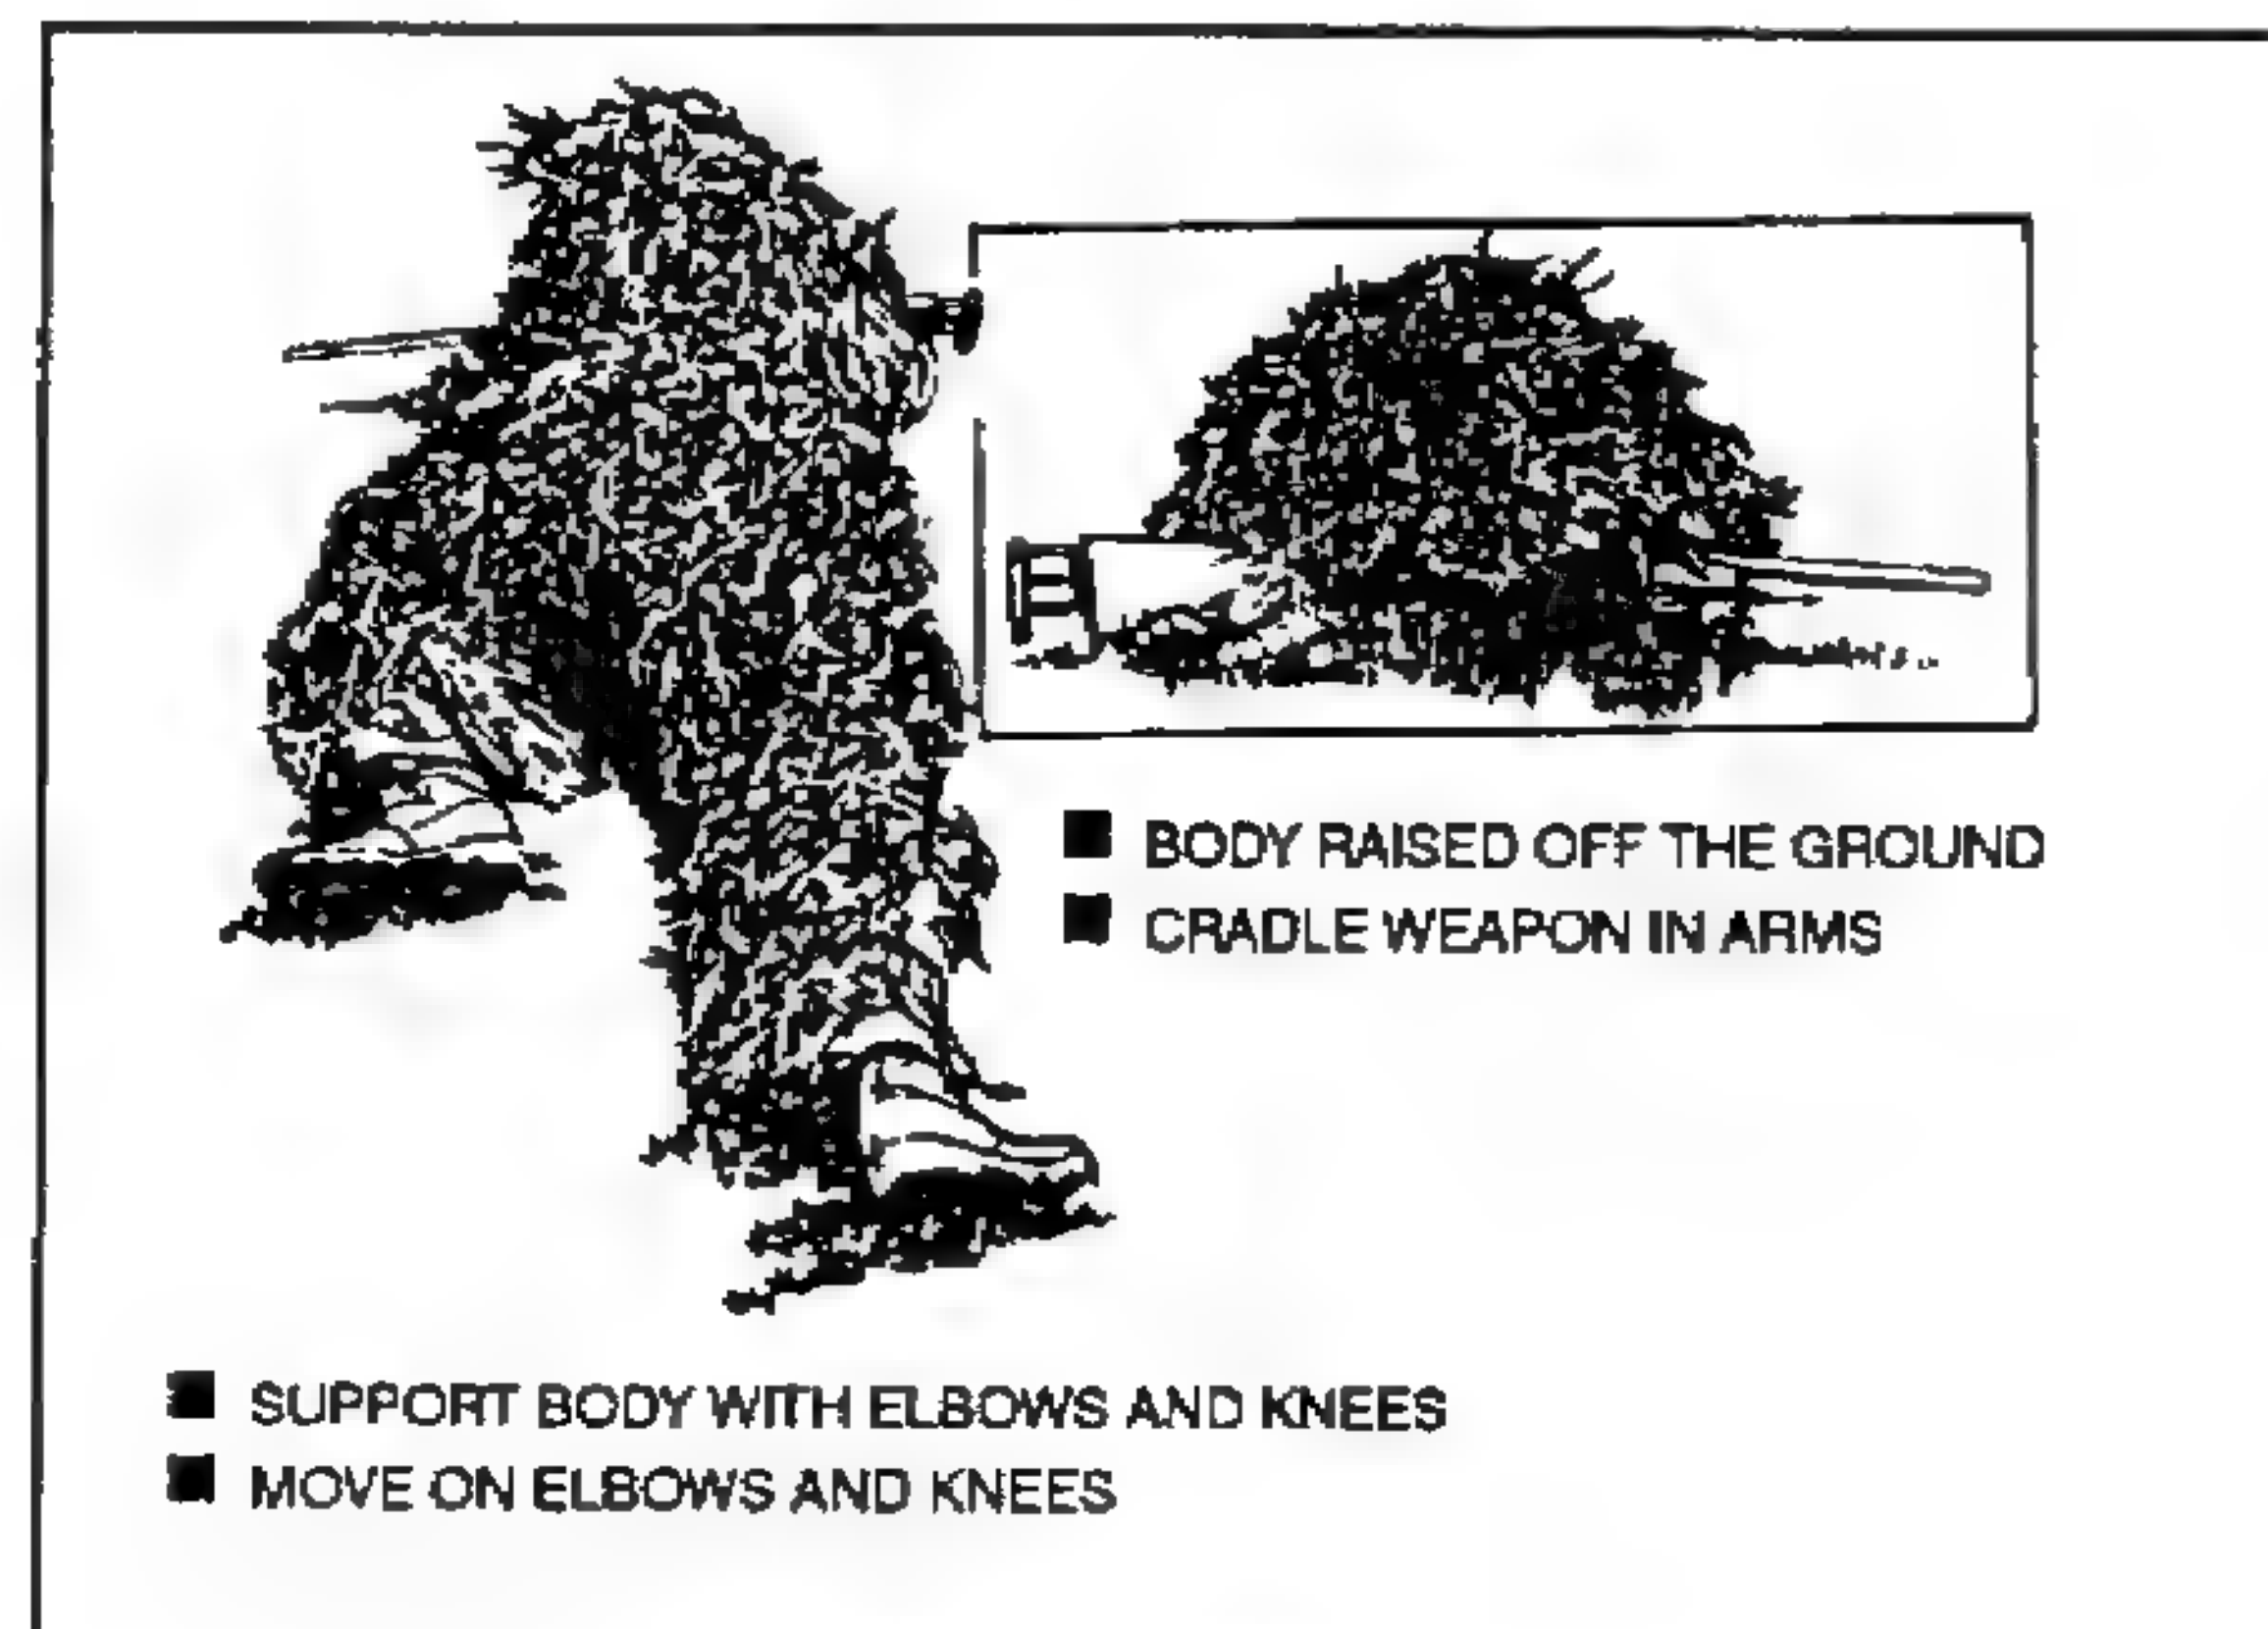

Figure 4-5. High crawl.
c. **High Crawl.** The high crawl (Figure 4-5) is used when concealment is limited but high enough to allow the sniper to raise his body off the ground. The high crawl is similar to the infantry high crawl.